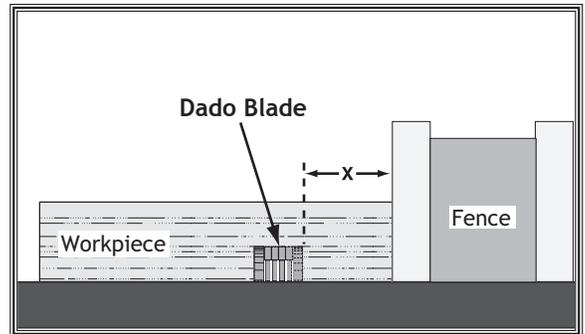

Figure 62. Example of a dado being cut with a dado blade.
Commonly used in furniture joinery, a dado is a straight channel cut in the face of the workpiece. Dadoes are "non-through" cuts that can be made with a dado blade or a standard saw blade. **Figure 62** shows a cutaway view of a dado cut being made with a dado blade.
3. Adjust distance between fence and inside edge of blade, as shown in **Figure 62** on **Page 45**, to dado length of a workpiece.